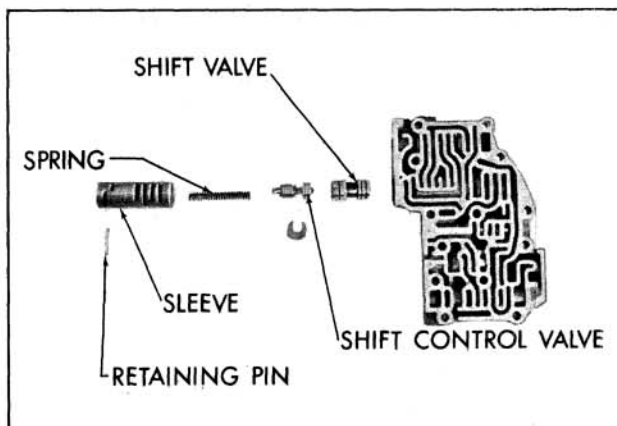

Fig. 6-399 Installing Shift Control Valve
3. Install shift valve, washer, spring, shift control valve and shift control valve sleeve. Depress shift control valve sleeve with thumb and install retaining pin. (Fig. 6-399)